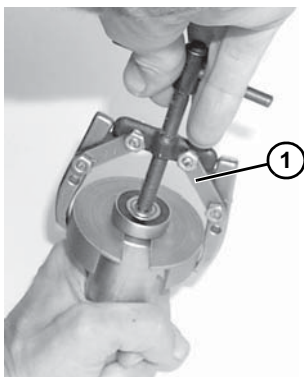

Figure 61
2. Using puller part #807-1716 (**Figure 61, item 1**), remove and discard bearing.